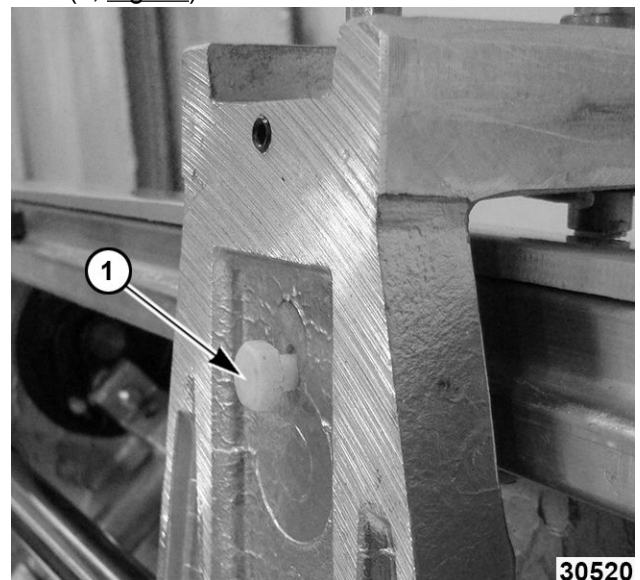

Fig. 37
5. Tighten or loosen the carriage adjustment screw (1, Fig. 37) in or out to achieve smooth travel.